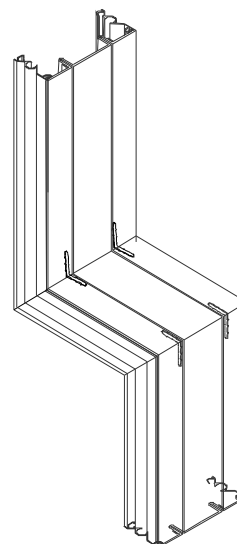

Figure 8
STEP 4. Select splice pins for the seal (one pin per splice slot in the face seal). Insert each splice pin half way into its corresponding splice slot in the face seal. Align the mating seal sections with one another. Insert the other half of the splice pin into the splice slots in the mating section of the face seal. Press the mating sections of the face seal together, compressing the caulk and providing a seal at the transition, see Figure 8.